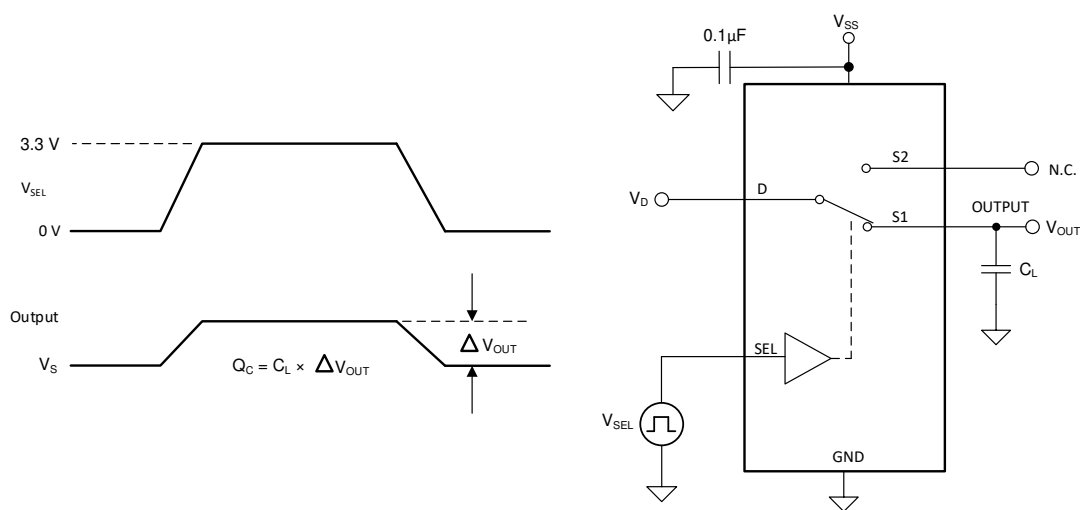

Figure 7-8. Charge-Injection Measurement Setup
The TMUX4157N has a transmission-gate topology. Any mismatch in capacitance between the NMOS and PMOS transistors results in a charge injected into the drain or source during the falling or rising edge of the gate signal. The amount of charge injected into the source or drain of the device is known as charge injection, and is denoted by the symbol  $Q_C$ . Figure 7-8 shows the setup used to measure charge injection from Drain (D) to Source (Sx).